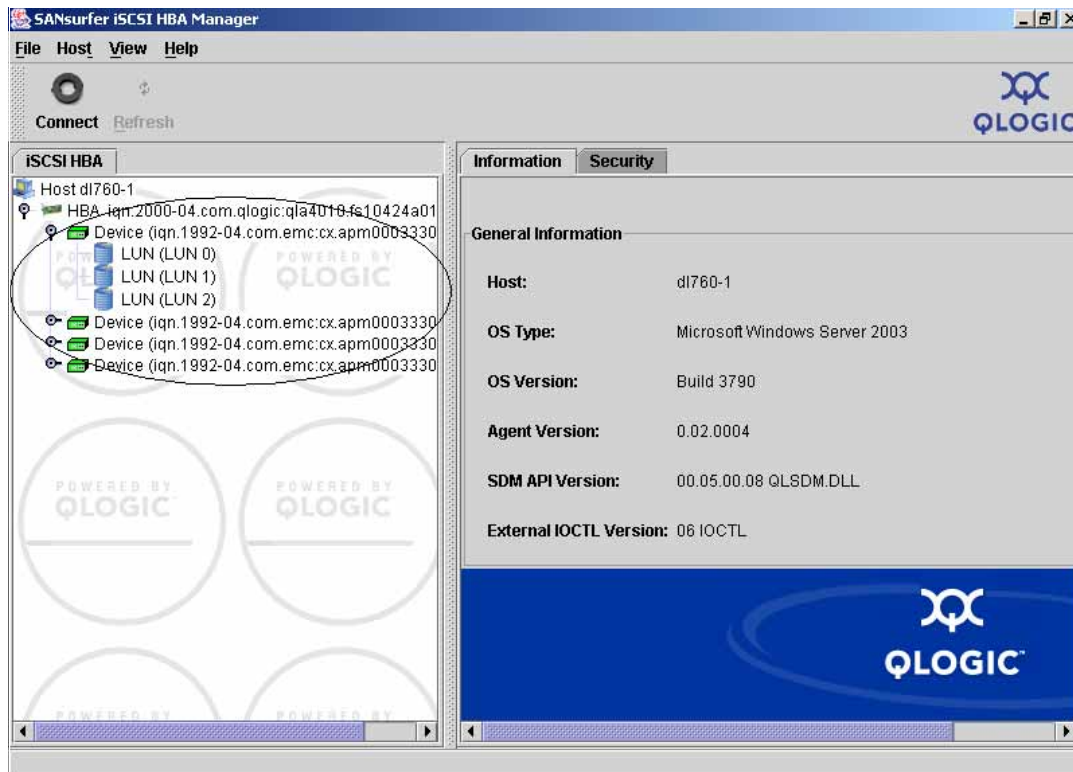

Figure 122 SANsurfer iSCSI HBA Manager, Information tab
- ◆ After the settings are saved, SANsurfer resets the adapter, and if target information was discovered properly, you will see active connections listed on the **SANsurfer iSCSI HBA Manager, Target Information** tab. You can also view active targets under the adapter in the left pane as shown in Figure 122.